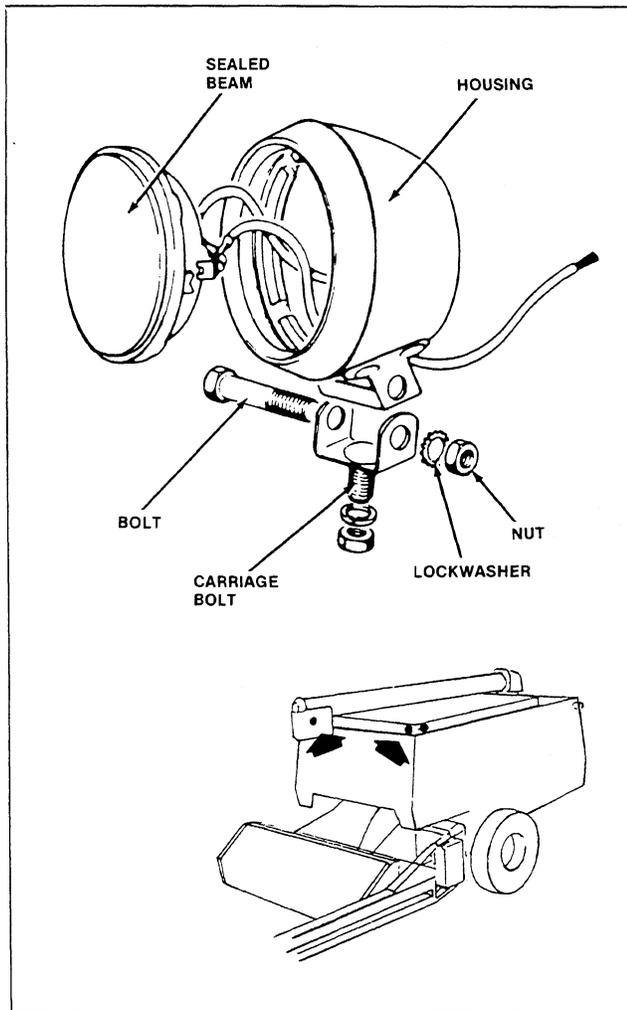

FIGURE 2-6: Field Light
1. Disconnect plug from sealed beam lamp to combine wiring harness (Figure 2-6).